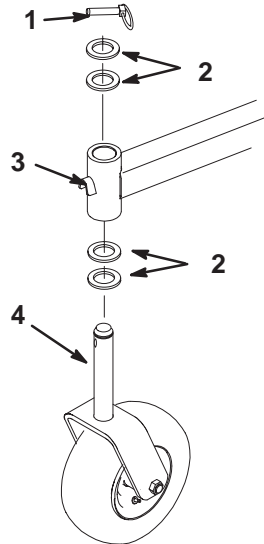

Figure 61
2. Remove the locking pin and spacer(s) from the top of the caster wheel fork (Fig. 61).
6. Inspect the caster wheel fork for wear and replace if necessary (Fig. 61).
7. Slide the caster wheel fork through the bushings in the mounting tube. Replace the spacer(s) onto the fork and secure with the retaining ring (Fig 61).